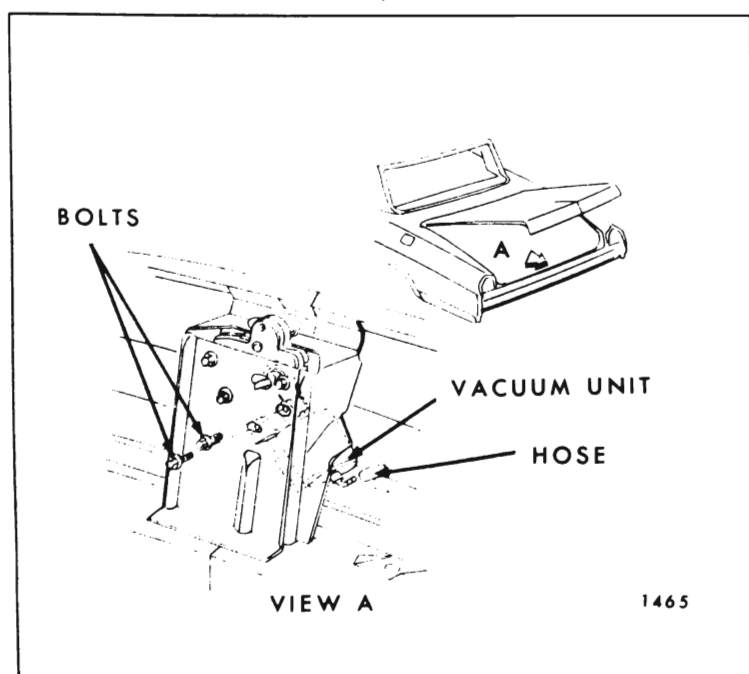

Fig. 9-18—Rear Compartment Vacuum Release Unit
2. Disconnect vacuum hose from vacuum release unit. Remove attaching bolts shown in illustration and remove vacuum unit (Figs. 9-18, 9-19 and 9-20 for typical illustrations).